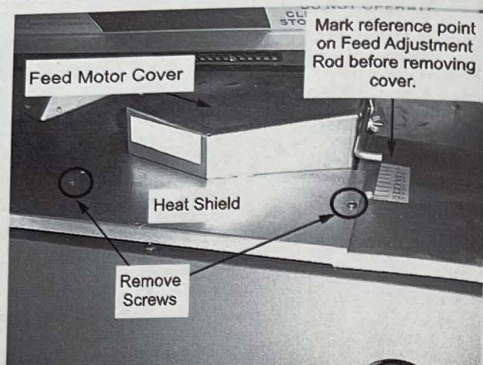

Figure 3
**NOTE:** Place a reference mark on the feed adjustment rod in relation to its position on feed motor cover (**Figure 3**). This will eliminate the need to re-set the feed rate when you are done.
2. Remove two (2) screws from heat shield and then remove the heat shield; set aside (**Figure 3**).